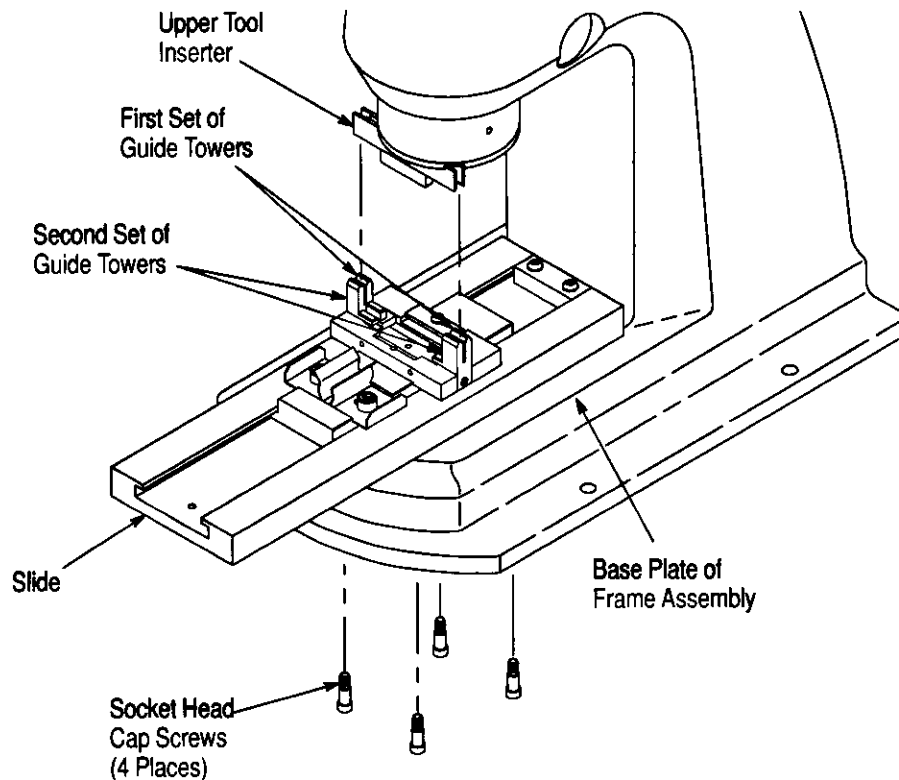

Figure 3
2. Assemble the slide onto the base plate of the frame assembly using the four socket head cap screws. Do NOT tighten screws at this time. See Figure 3.